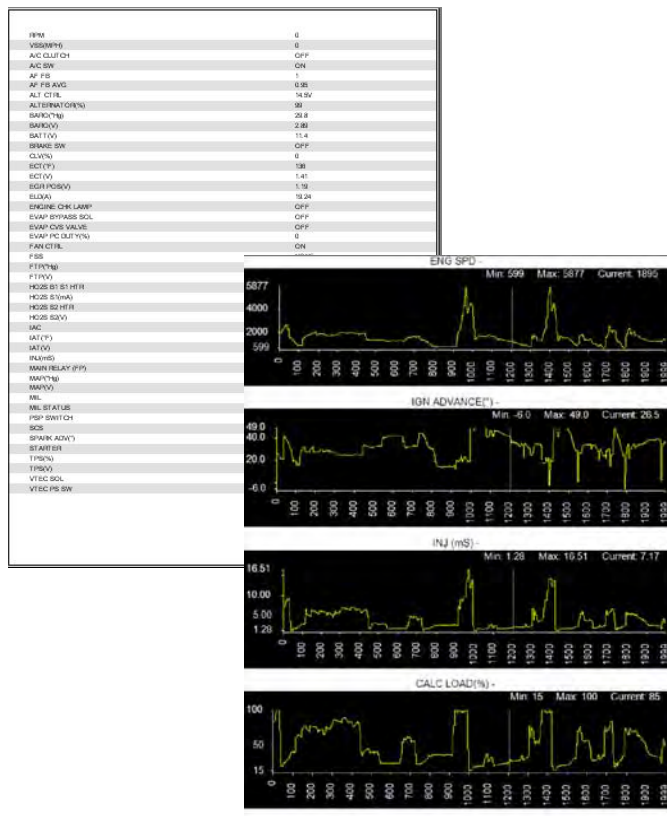

Figure 11-19 Print preview window (text list and graphs examples)
- b. If Print Preview was selected, a preview window opens. Select the printer icon (Figure 11-19) to send the file to the printer.